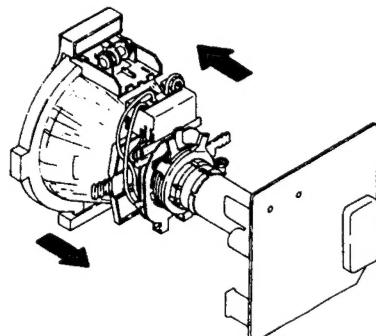

Fig. 3-1
- Move the deflection yoke backward, and adjust with the purity control so that red is in the center and blue and green are at the sides, evenly. (Fig. 3-1 to 3-3)
- Move the deflection yoke forward, and adjust so that the entire screen becomes red. (Fig. 3-1)